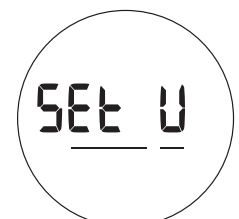

Fig. 46 - SET U GROUP
- > A + S (2 sec), while viewing Set A, will access Set U (Fig. 46).